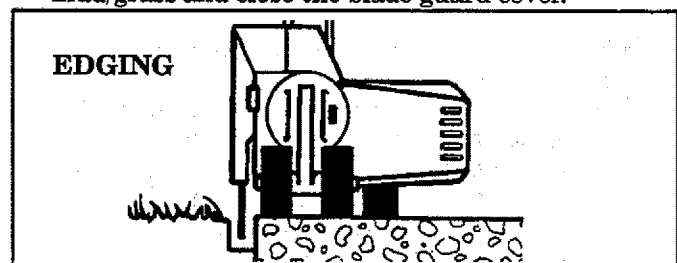

Figure 8
EDGING (Figure 8) – yields precise, close cutting around sidewalks, driveways, patios, etc.
3. Keep your edging path straight by guiding the depth adjusting wheel flat on walkway. Figure 8.